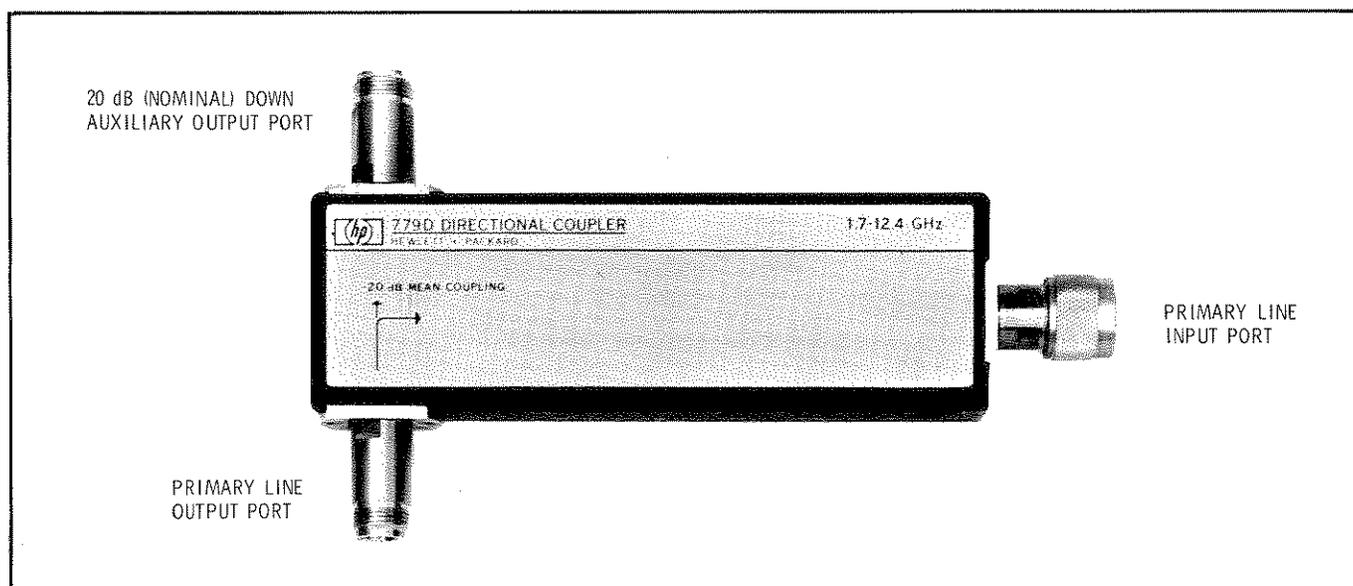

Figure 4. Signal Flow Path for Coupler Connected in the Forward Direction
25. Figure 4 shows the signal-flow path in the 779D when connected in the forward direction (779D shown with label facing reader, as with all diagrams in this operating note).